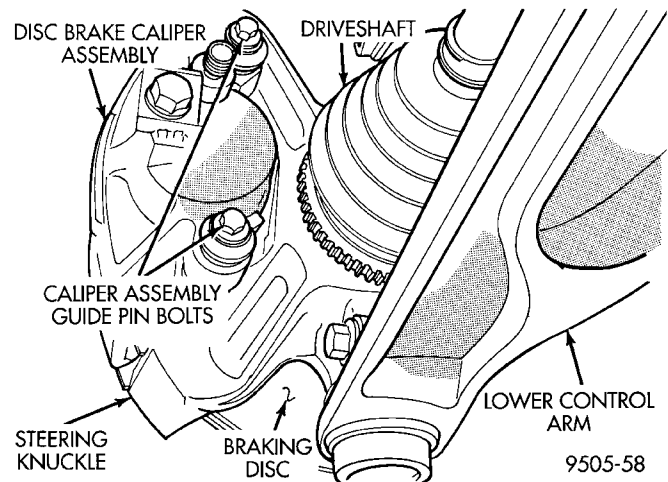

Fig. 58 Caliper Guide Pin Bolts
(1) Raise vehicle on jackstands or centered on a hoist. See Hoisting in the Lubrication and Maintenance section of this manual.
(2) Remove the front wheel and tire assemblies from vehicle.
(3) Remove the 2 guide pin bolts (Fig. 58) mounting the caliper to the steering knuckle .
(8) Install the caliper guide pin bolts (Fig. 58) and tighten to 18 to 20 N·m (192 in. lbs.). **Extreme caution should be taken not to cross thread the caliper guide pin bolts.**
(9) Install the wheel and tire assembly.